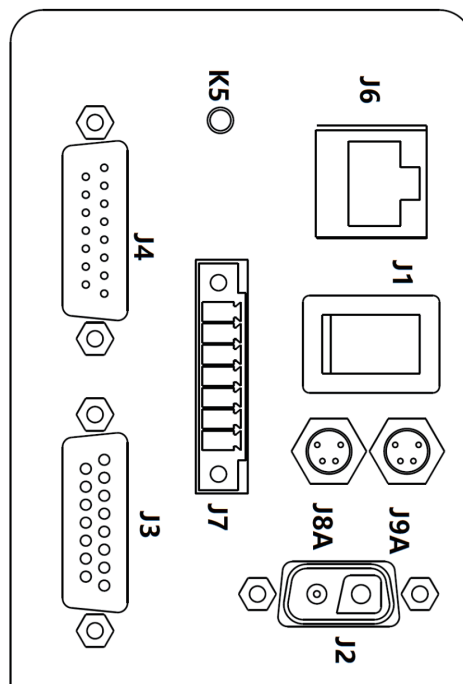

Figure 1
1. General schematic diagram of the base interface at A (shown in Figure 1)
2. Figure 1 interface definition description
3. The internal circuit design of the J3 and J4 interfaces in Figure 1